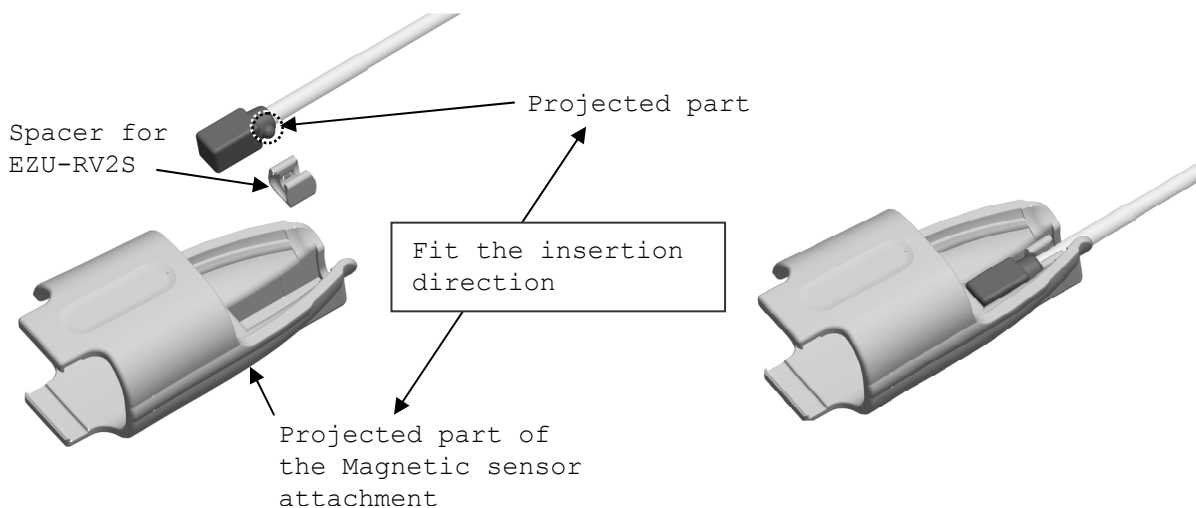

Fig. 4 How to attach the Magnetic sensor
- b) Insert the EZU-RV2S into them sensor attachment with the correct direction as shown in Fig. 4.